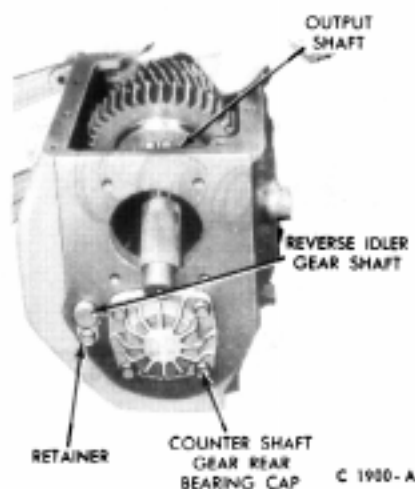

FIG. 7 Removing Output Shaft
10. Lift the output shaft from the case as shown in Fig. 7.
11. Remove the reverse idler gear shaft retainer from the rear of the case (Fig. 7). Secure the puller T50T0100-A and adapter T50T-7140-B to the shaft. Hold the gear to prevent it from dropping, and then remove the idler shaft.